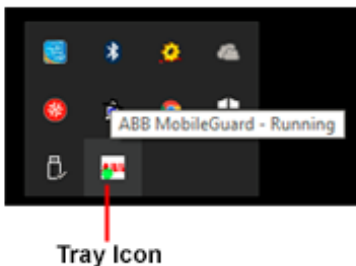

Figure 6 Tray Icon with Green Dot
- 7 Once installation finishes, allow the ABB MobileGuard™ service a few seconds to start (the *Tray* icon should change from a gray dot to a green dot – see Figure 6).